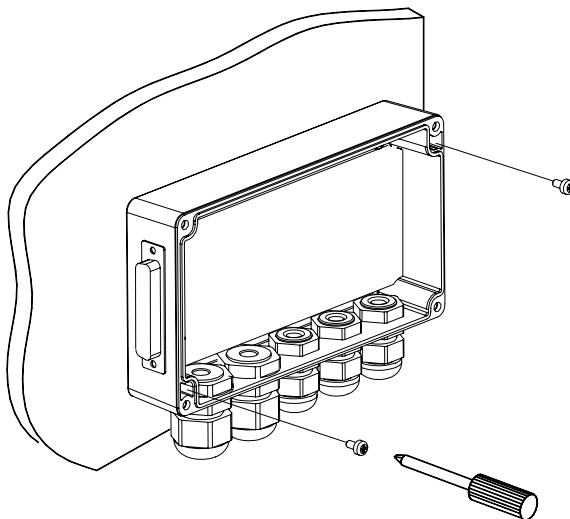

Figure 4 - Mounting C-BOX 3X0
C-BOX 3X0 can be installed to operate in different positions. The two screw holes inside the housing of the C-BOX 3X0 are for mechanical fixture (Figure 4).
- 2) Align the C-BOX 3X0 and insert two screws and screw them into the panel until tight (see Figure 4).